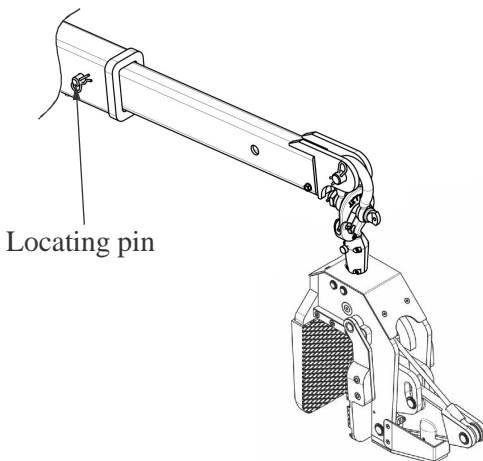

Figure 1
- Hook Arcturus Lifter on the forklift boom (figure 1).